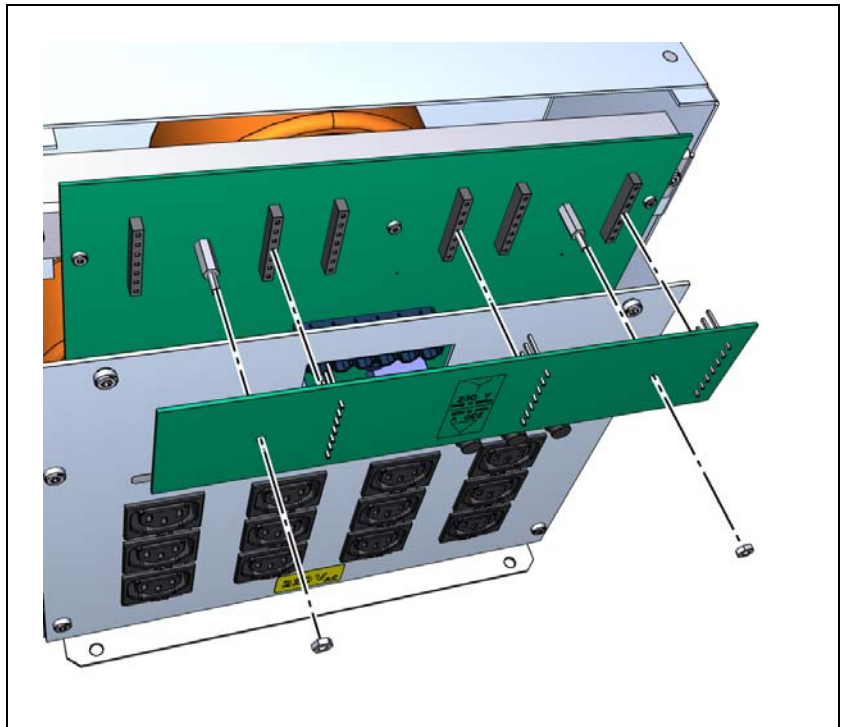

Figure 2-21. Attach XNET2 plug.
10. Align and connect the plug to the EPT3 with the standoffs in the holes of the XNET2 plug (see figure 2-21). Press firmly to seat the three connectors completely.